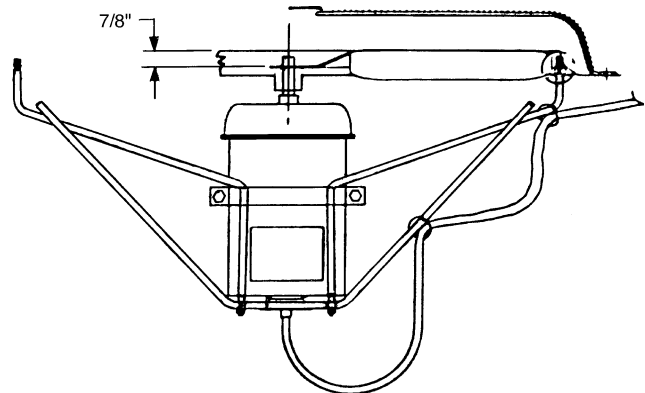

Fig. 130 — Condenser-Fan Adjustment (Standard Fan)
3. See Fig. 130 and adjust fan height using a straight edge laid across the fan deck.